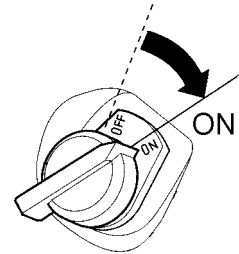

Figure 13. Engine ON/OFF Switch (ON)
4. Place the **engine ON/OFF switch** (Figure 13) in the "ON" position.